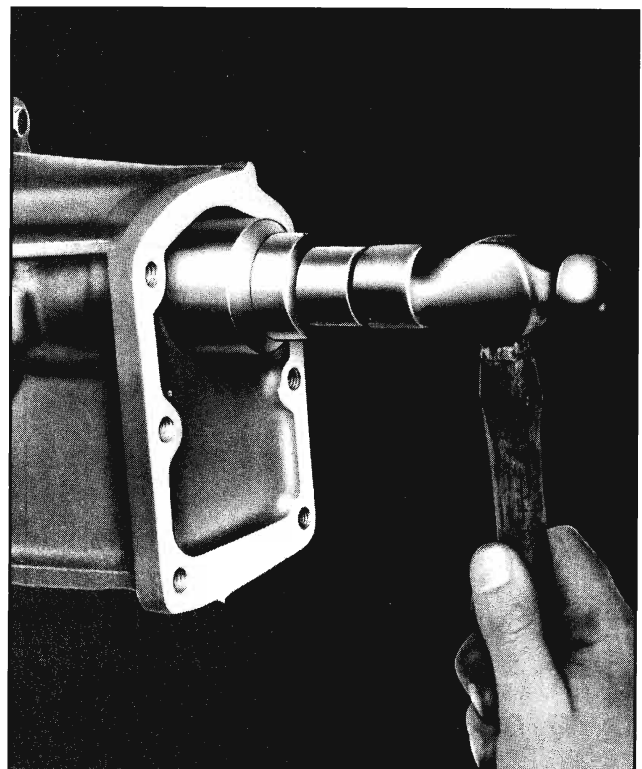

Fig. 7-24 Installing Front Bearing
2. Install spacer and front bearing (Fig. 7-24) in same manner.